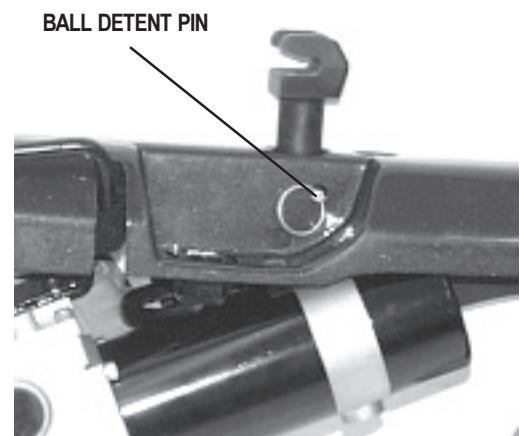

Figure 11. Seat Height Adjustment
2. Remove the ball detent pin from each seat tower. See figure 11.